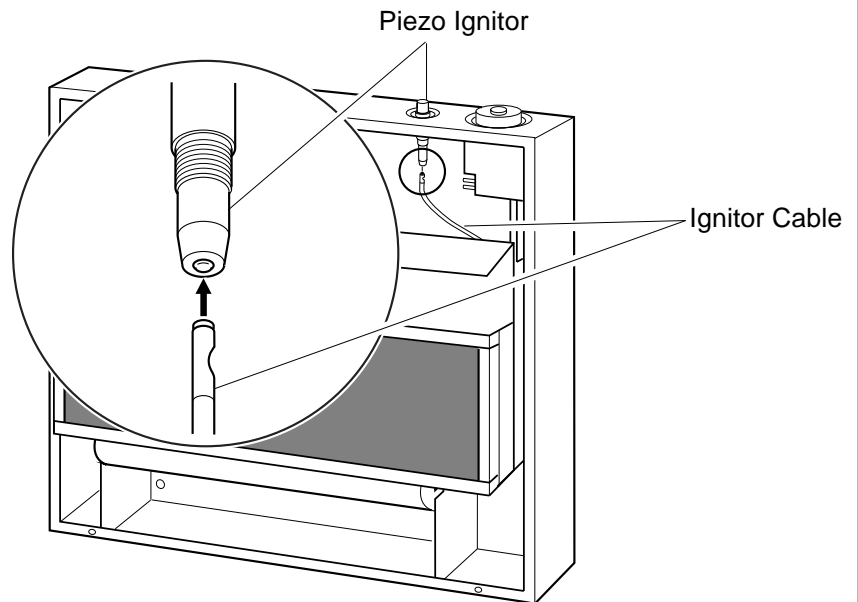

Figure 3 - Attaching Ignitor Cable to Piezo Ignitor
2. Attach ignitor cable to piezo ignitor (see Figure 3).